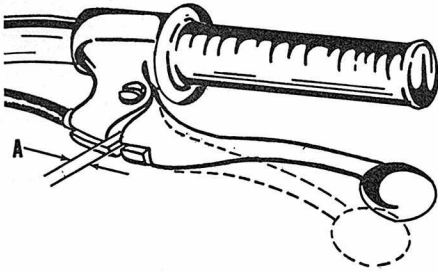

Fig. Y12-3 — Clutch lever should have  $\frac{1}{16}$ - $\frac{1}{8}$  inch free play at (A).
then back it out  $\frac{1}{4}$  turn and tighten lock nut (A). Clutch cable should be adjusted to obtain  $\frac{1}{16}$ - $\frac{1}{8}$  inch free play in lever as shown in Fig. Y12-3.